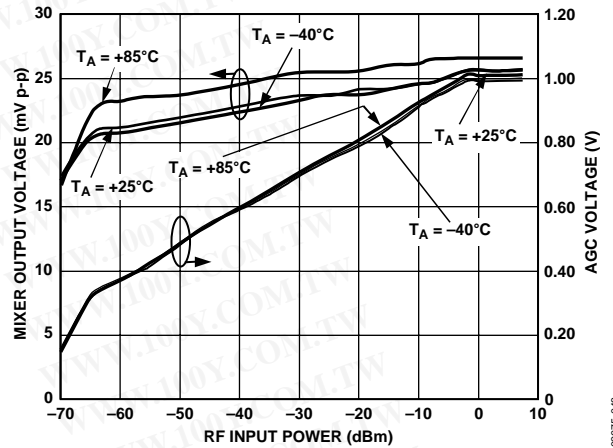
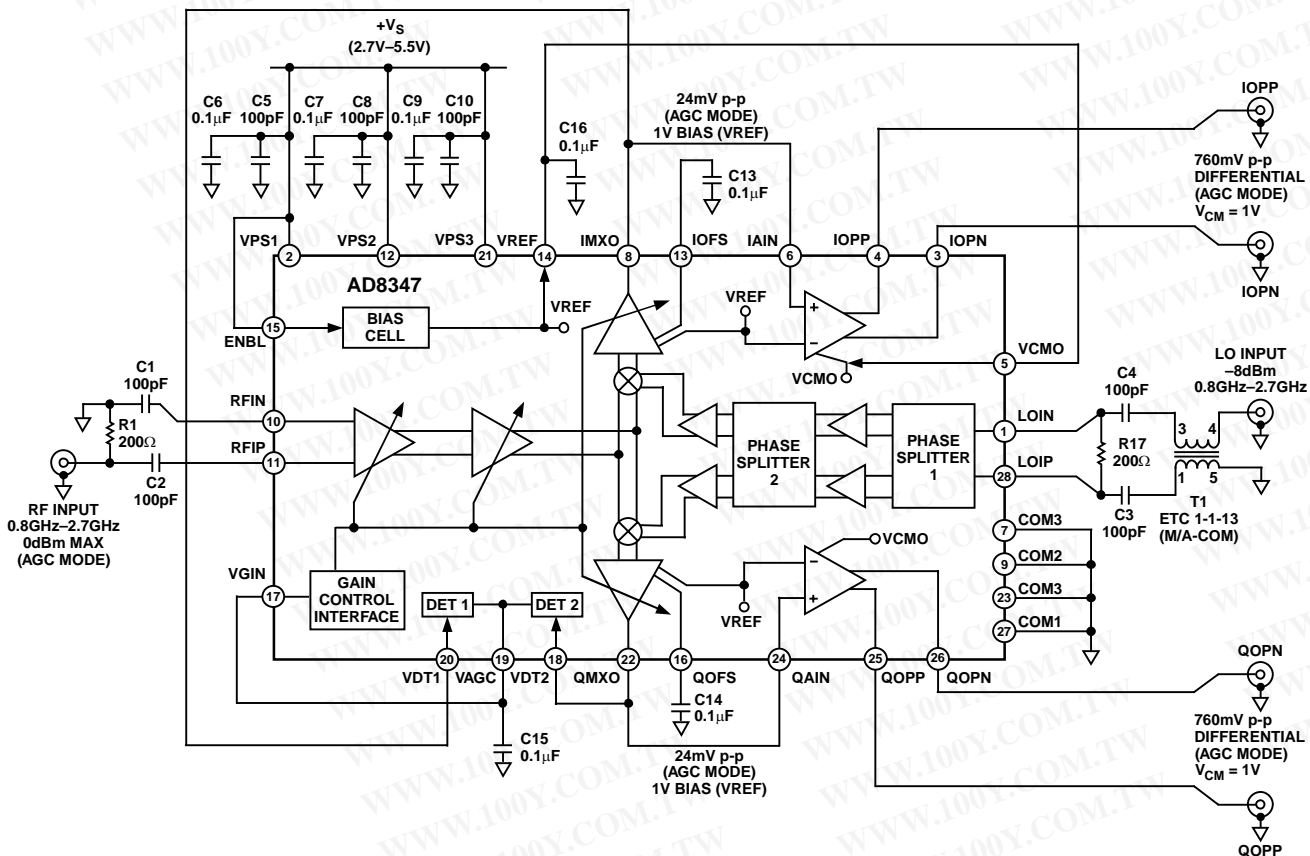
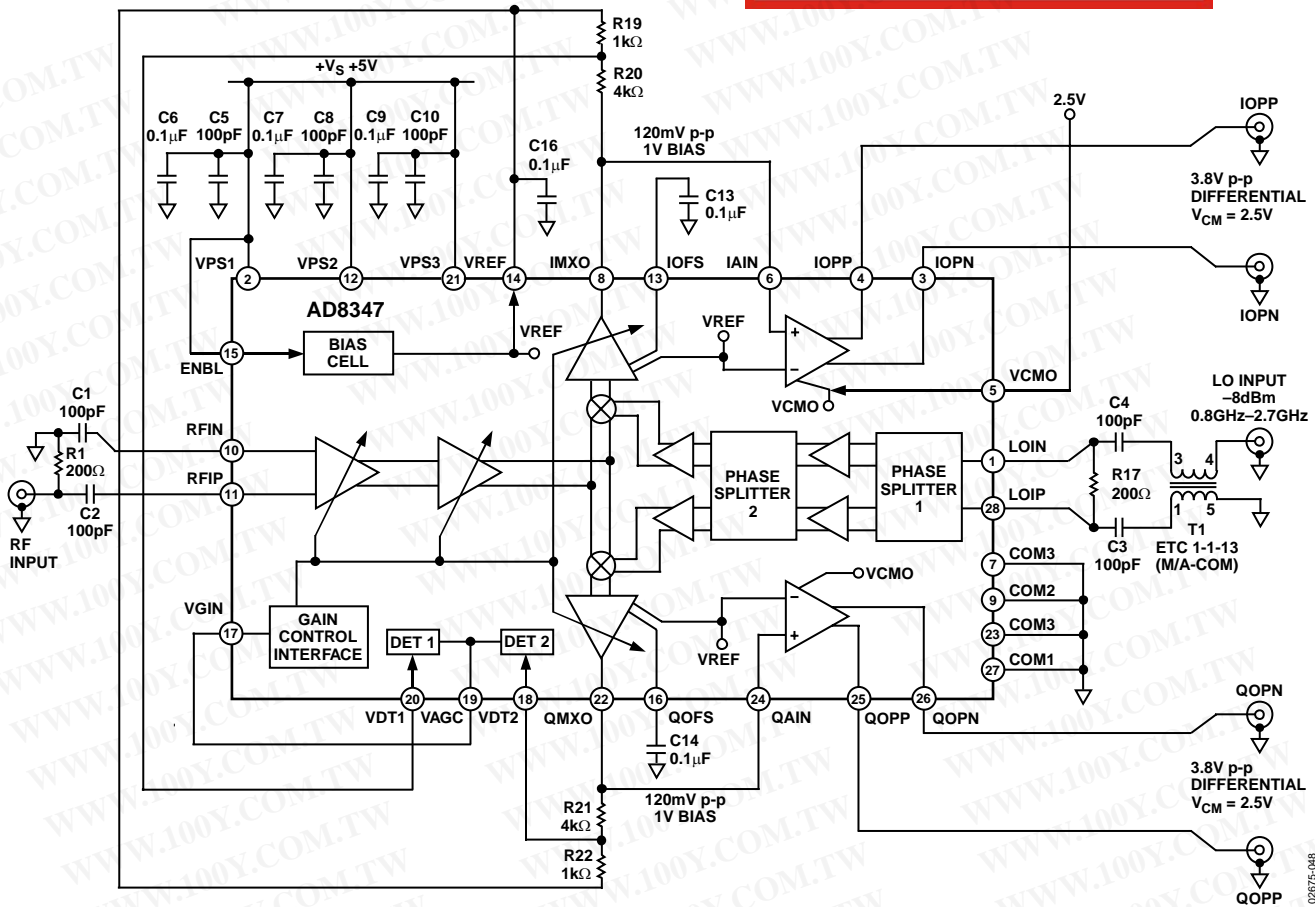

Figure 34. AGC Voltage and Mixer Output Level vs. RF Input Power,  $F_{LO} = 1900 MHz$ ,  $F_{BB} = 1 MHz$ ,  $V_S = 5 V$
Figure 46. Basic Connections
Figure 48. Adjusting AGC Level to Increase Baseband Amplifier Output Swing
The basic connections for operating the AD8347 are shown in Figure 46. The device is powered through three power supply pins: VPS1, VPS2, and VPS3. These pins supply current to different parts of the overall circuit. VPS1 and VPS2 power the local oscillator (LO) and RF sections, respectively, while VPS3 powers the baseband amplifiers. Connect all of these pins to the same supply voltage; however, separately decouple each pin using two capacitors. 100 pF and 0.1  $\mu$ F capacitors are recommended, though values close to these can be used.
For optimum performance, the LO inputs, LOIN and LOIP, should be driven differentially; the M/A-COM balun, ETC1-1-13 is recommended. Unless an ac-coupled transformer is used to generate the differential LO, the inputs must be ac-coupled, as shown in Figure 46. To improve broadband matching to a 50  $\Omega$  source, connect a 200  $\Omega$  shunt resistor between LOIP and LOIN.
The connections for operating in this mode are shown in Figure 46. The two mixer outputs are connected to Detector Input VDT1 and Detector Input VDT2. The summed detector output drives an internal integrator which, in turn, delivers a gain correction voltage to the VAGC pin. A  $0.1 \mu\text{F}$  capacitor from VAGC to ground sets the dominant pole of the integrator circuit. VAGC, which should be connected to VGIN, adjusts gain until an internal threshold is reached. This threshold corresponds to a level at the IMXO and QMXO pins of approximately 8.5 mV rms. This level changes slightly as a function of RF input power (see Figure 34). For a CW (sine wave) input, this corresponds to approximately 24 mV p-p. If this signal is applied directly to the subsequent baseband amplifier stage, the final baseband output is 760 mV p-p differential. See the Baseband Amplifiers section.
The AGC circuit can be easily set up to level at voltages higher than the nominal 24 mV p-p, as shown in Figure 48. The voltages on Pin IMXO and Pin QMXO are attenuated before being applied to the detector inputs. In the example shown, an attenuation factor of 0.2 (-14 dB) between IMXO and QMXO and the detector inputs causes the VGA to level at approximately 120 mV p-p (note that the resistor divider network must be referenced to VVREF). This results in a peak-to-peak output swing at the baseband amplifier outputs of 3.8 V differential, that is, 1.6 V to 3.4 V on each side. Note that VVCMO has been increased to 2.5 V to avoid signal clipping at the baseband outputs. Due to the attenuation between the mixer output and the detector input, the variation in the settled mixer output level vs. RF input power will be greater than the variation shown in Figure 34. The variation will be greater by a factor equal to the inverse of the attenuation factor.
The single-ended input signal to the baseband amplifiers is applied at IAIN and QAIN, the high impedance inputs. As shown in Figure 46, the baseband amplifier operates internally as a differential amplifier, with the second input driven by VVREF. Therefore, bias the input signal to the baseband amplifier at VVREF.